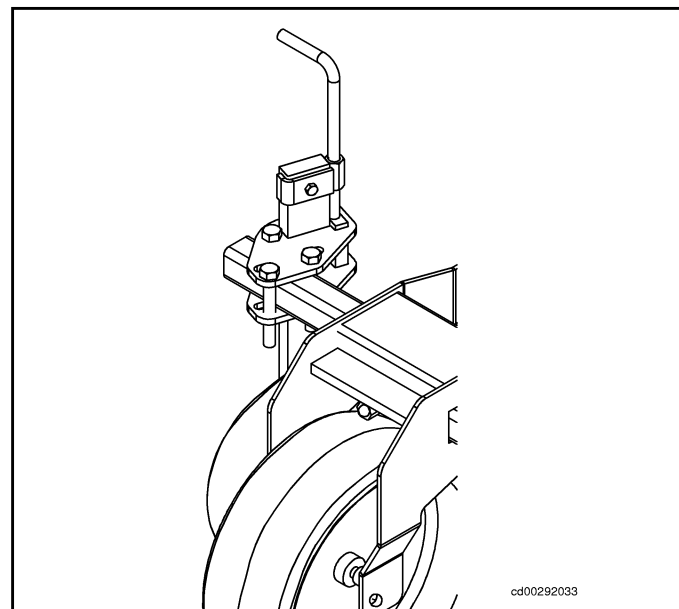

Figure 57 Mounting Crank Assembly
1. Mount crank assembly to shank, using 3/8 x 1-3/4" hex bolt and flanged nut as shown in Figure 57.